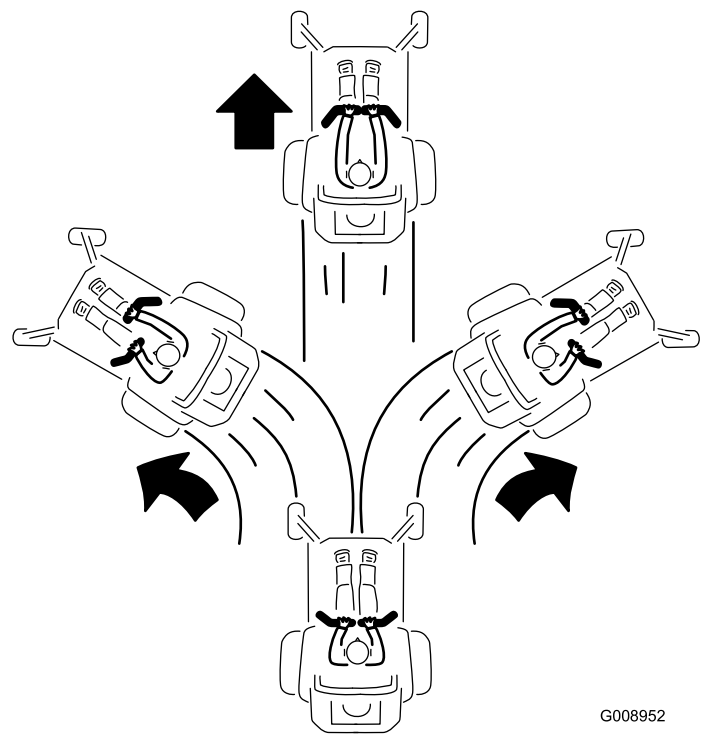

Figure 33
3. To go forward, slowly push the motion-control levers forward (Figure 33).